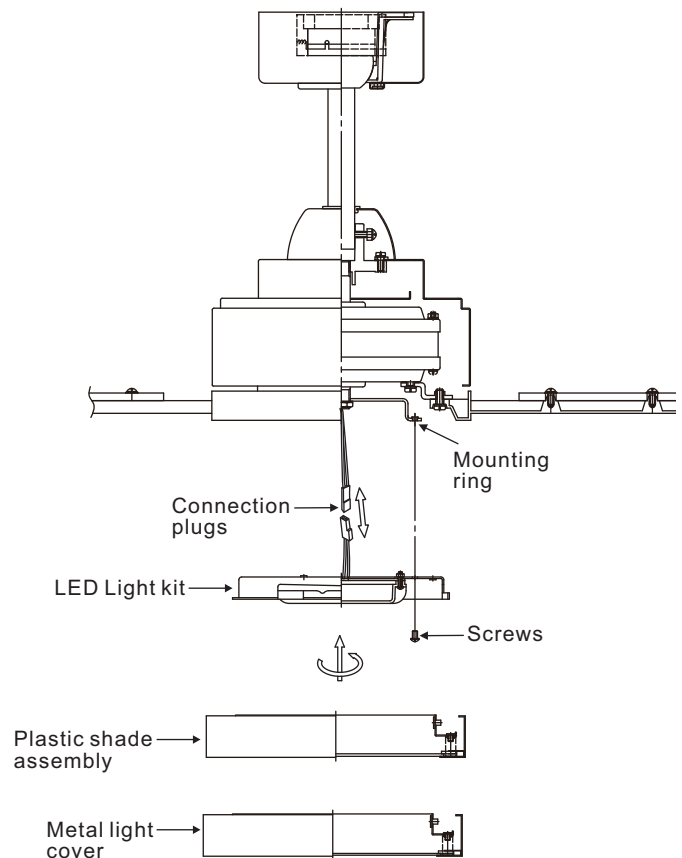

Figure 12
Step 1. Attach the blade to the blade bracket using the screws and fiber washers as shown in Figure 12. Start screw into bracket. Repeat for the two remaining screws.
Step 1. Remove the 1 of 3 screws from the posts of the mounting ring and keep it for future use. Loosen the other 2 screws. (Do not remove) (Fig. 12)
Step 3. Place the key holes in the LED light kit over the two screws previously loosened from the mounting ring. Turn the LED light kit until the LED light kit locks in place at the narrow section of the key holes. (Fig. 12)
Step 5. Raise plastic shade up against the LED light kit, and secure it to fan by turning glass shade clockwise until snug. DO NOT OVERTIGHTEN. (Fig. 12)
Step 6. If installing the optional metal light cover, make sure is securely tighten. (Fig. 12)